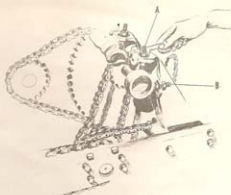

Figure 10—Idler Chain Adjustment
4) Tighten the bolts loosened in steps (1) & (2) above and assemble the tires and axles with the clevis and hair pins.
g) *Idler Chain Adjustment:* (See Figure 10).
To make adjustments, (1) loosen the jam nuts on the take up supports, located top and front of the idler shaft support bracket (See "A" Figure 10), (2) adjust the nuts located bottom and back of the idler shaft brackets (See "B" Figure 10), (3) Retighten the jam nuts loosened in step (1) above, (4) check for sprocket alignment using a straight edge, (5) repeat the above steps, if necessary to provide proper chain tension and sprocket alignment. The chains should have as little slack as possible without pre-loading the chains.